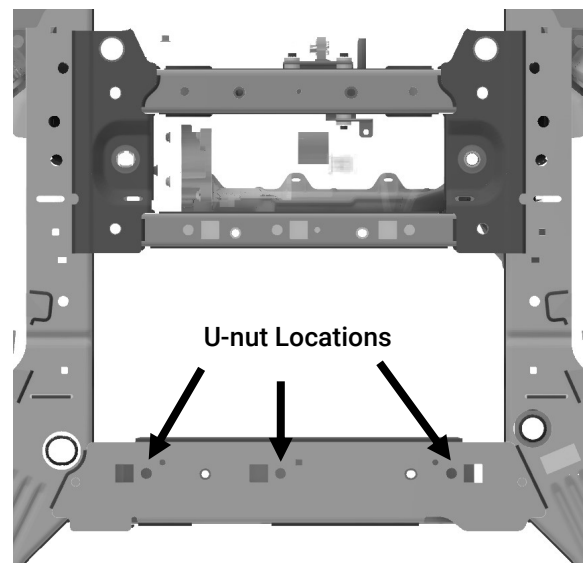

Figure 1
- A. Clip a U-nut [3X277] onto each of the (3) locations marked in Figure 1. If the front skid plate is already installed, simply remove the 3 rearmost button head bolts [3X276] using a T40 Torx driver.